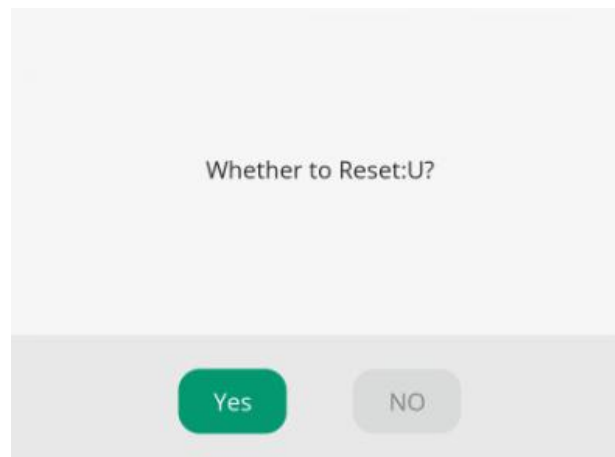

Figure 5-10 Reset User
- **Reset:** Click **reset** after selecting a user and there pops up a window where prompts whether to reset the user. Click “**Yes**” to reset the password as 123456 while click “**No**” to cancel the reset operation, as shown in figure 5-10.